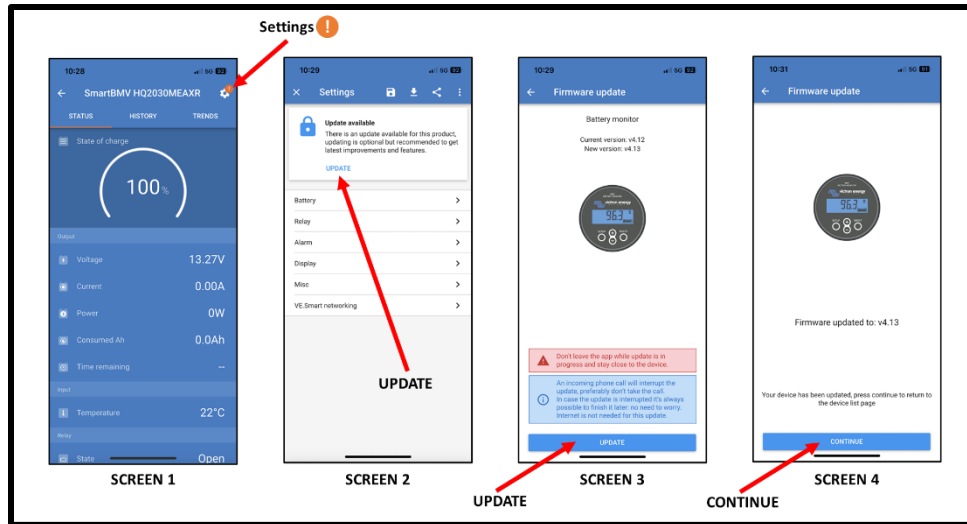

Figure 2. Victron Battery Monitor Firmware Update
- (1) Select the Settings option  on the Main Menu (SCREEN 1) of the **Victron Connect** App. This will cause the Settings Menu to be displayed.
- (2) If a firmware update is available, the message box shown on SCREEN 2 of Figure 2 will be displayed. Depress the **UPDATE** option.
- (3) The Firmware update page, SCREEN 3, should now be displayed. Depress the **UPDATE** option.
- (4) An activity bar will be displayed during the update process. When the update is complete, SCREEN 4 will be displayed. Depress the CONTINUE option to complete the update process.
- (5) Proceed to step E.4.